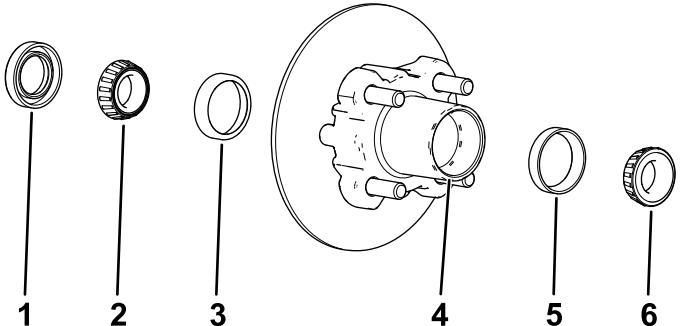

Figure 41
1. Remove the outboard bearing and bearing race from the hub (Figure 41).
2. Remove the seal, inboard bearing from the hub (Figure 41).
5. Clean the cavity of the hub of all grease, dirt, and debris (Figure 41).
7. Fill the cavity of hub 50 to 80% full of the specified grease (Figure 41).
8. Assemble the inboard bearing onto the race at the inboard side of the hub and install the seal (Figure 41).